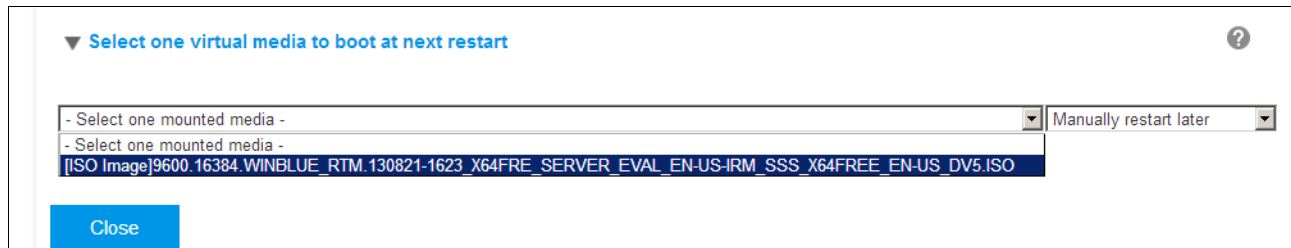
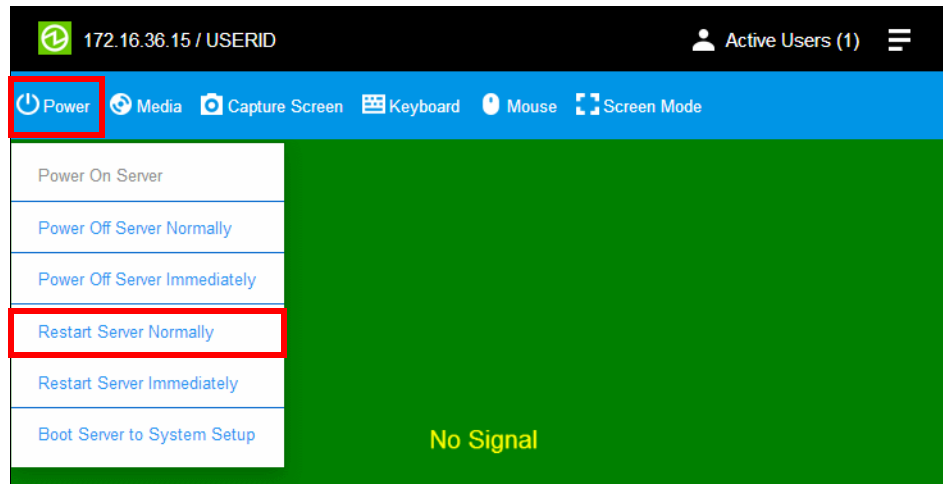

Figure 6-9 Select the virtual media to load
Figure 6-11 Restart the server to boot to the ISO
14. You can reboot the server from the media mounting screen in XCC, as shown in Figure 6-9 or you can reboot the server from the remote console screen power menu as shown in Figure 6-11 on page 190.